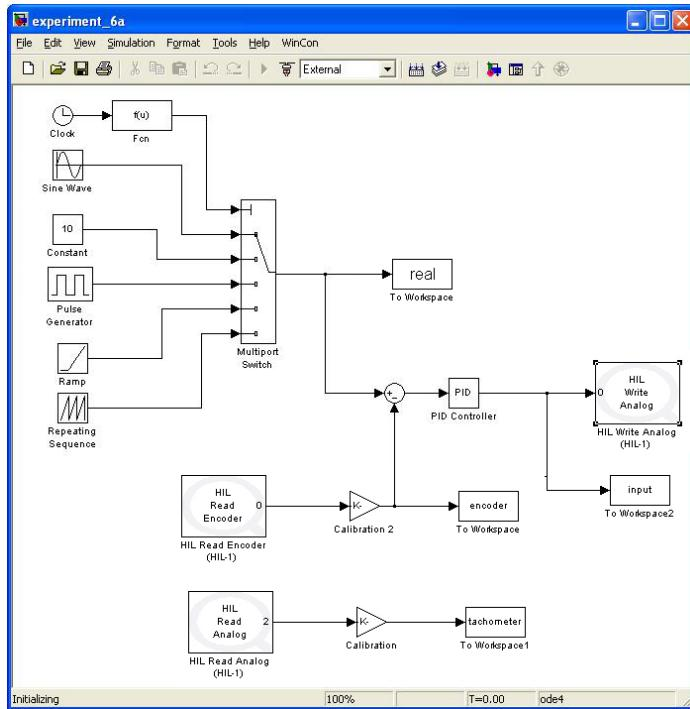

Figure 1.5: Simulink model for the implementation of multiple inputs and PID control
9. Change the reference angle trajectory to add more switching times within a period. To make things interesting, have the desired angle behave as four different functions on different intervals. This can be achieved by preparing the Simulink model shown in Figure 1.5. *You do not need to use the exact same functions as shown in the figure.* Pick four functions that you think would be interesting. In this model, a number of